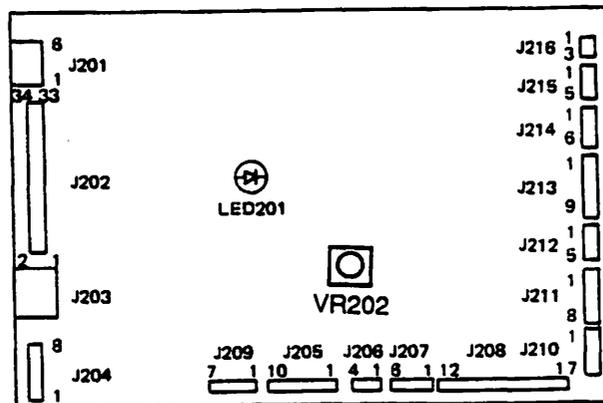

Figure 3-2 : Connector Locations on the DC Controller PCB
6. Disconnect the cable from J209 on the DC Controller board (see Figure 3-2).
8. If a new DC Controller board is being installed, turn VR202 (see Figure 3-2) all the way counterclockwise, to start with the lowest possible setting.